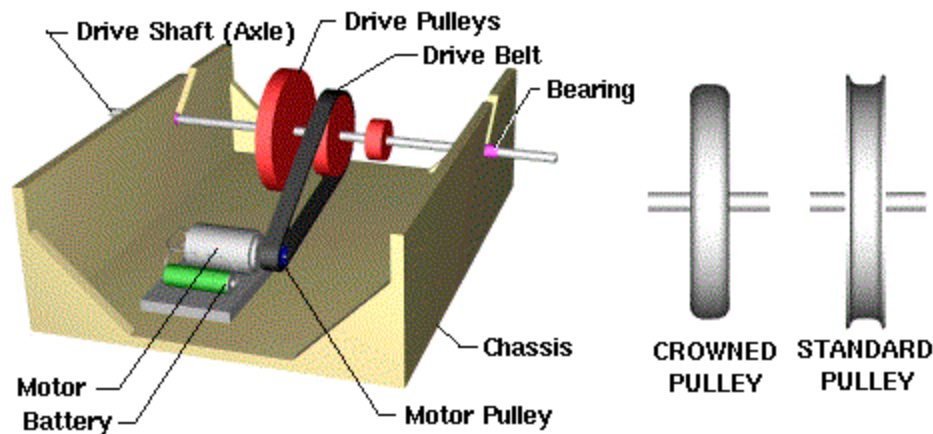

Figure 16: Transmission investigation setup
Procedure: (see Figure 16)
- Notice how flat rubber bands tend to crawl up the edges of a pulley - try a "crowned" pulley (convex profile) as shown in Figure 16. It is counter-intuitive, but does work, and is used often in machines.